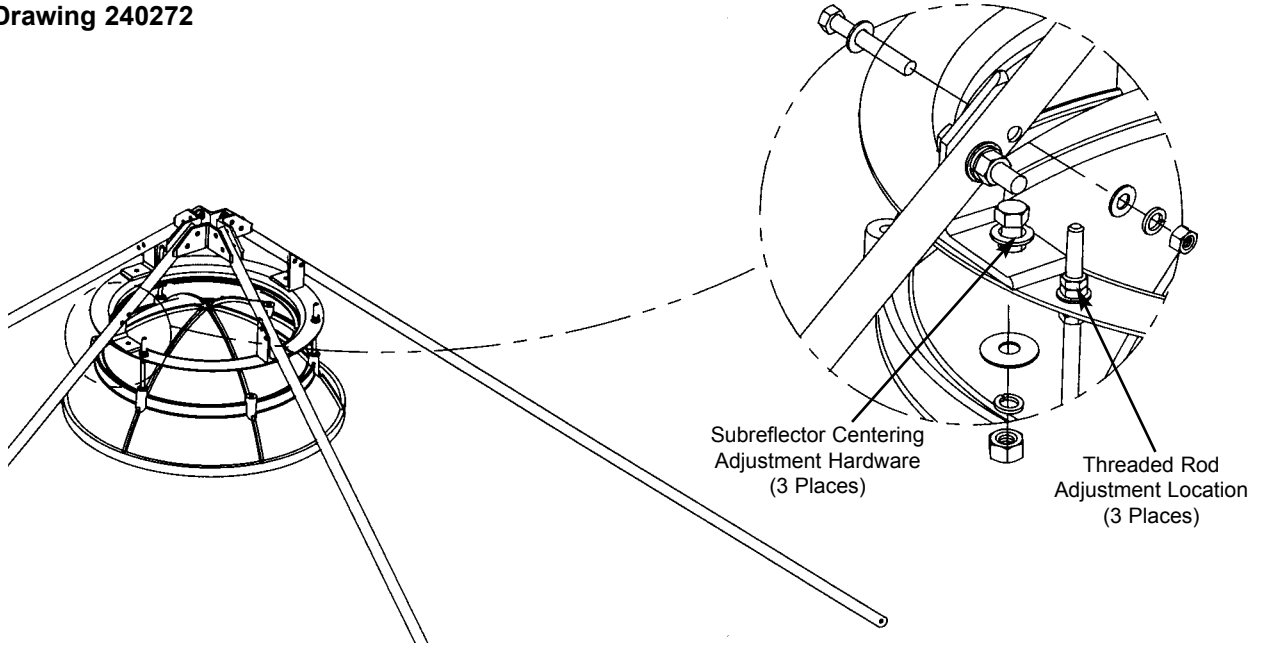

Figure 22
- Step 3** Adjust the height of the subreflector with the 302752-() Subreflector Setting Rod. Rest the square end of the setting rod on top of the first panel seam screw. Choose a screw which is nearest one of the subreflector adjustment threaded rods. Refer to Figure 22 for threaded rod adjustment locations. Sweep the setting rod back and forth across the edge of the subreflector to find the shortest distance. Adjust the height of the subreflector to within 1/32" (1 mm) of the setting rod.
- Step 4** Center the subreflector using dimension "A". Refer to Figure 22 for subreflector centering adjustment hardware location. **Note:** For C-Band Feeds: dimension "A" should be taken from the edge of the feed horn to the subreflector edge. For Ku-Band Feeds: dimension "A" should be taken from the edge of the subreflector to the mounting bolt. Perform this measurement at 4 locations (Top, Bottom, Left and Right).